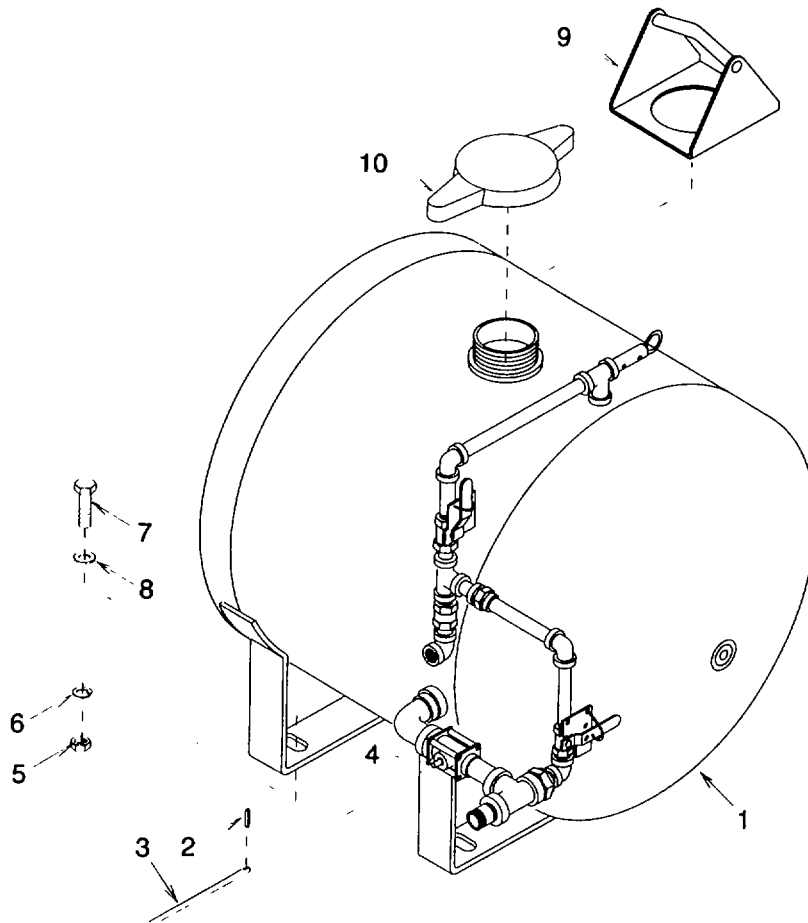
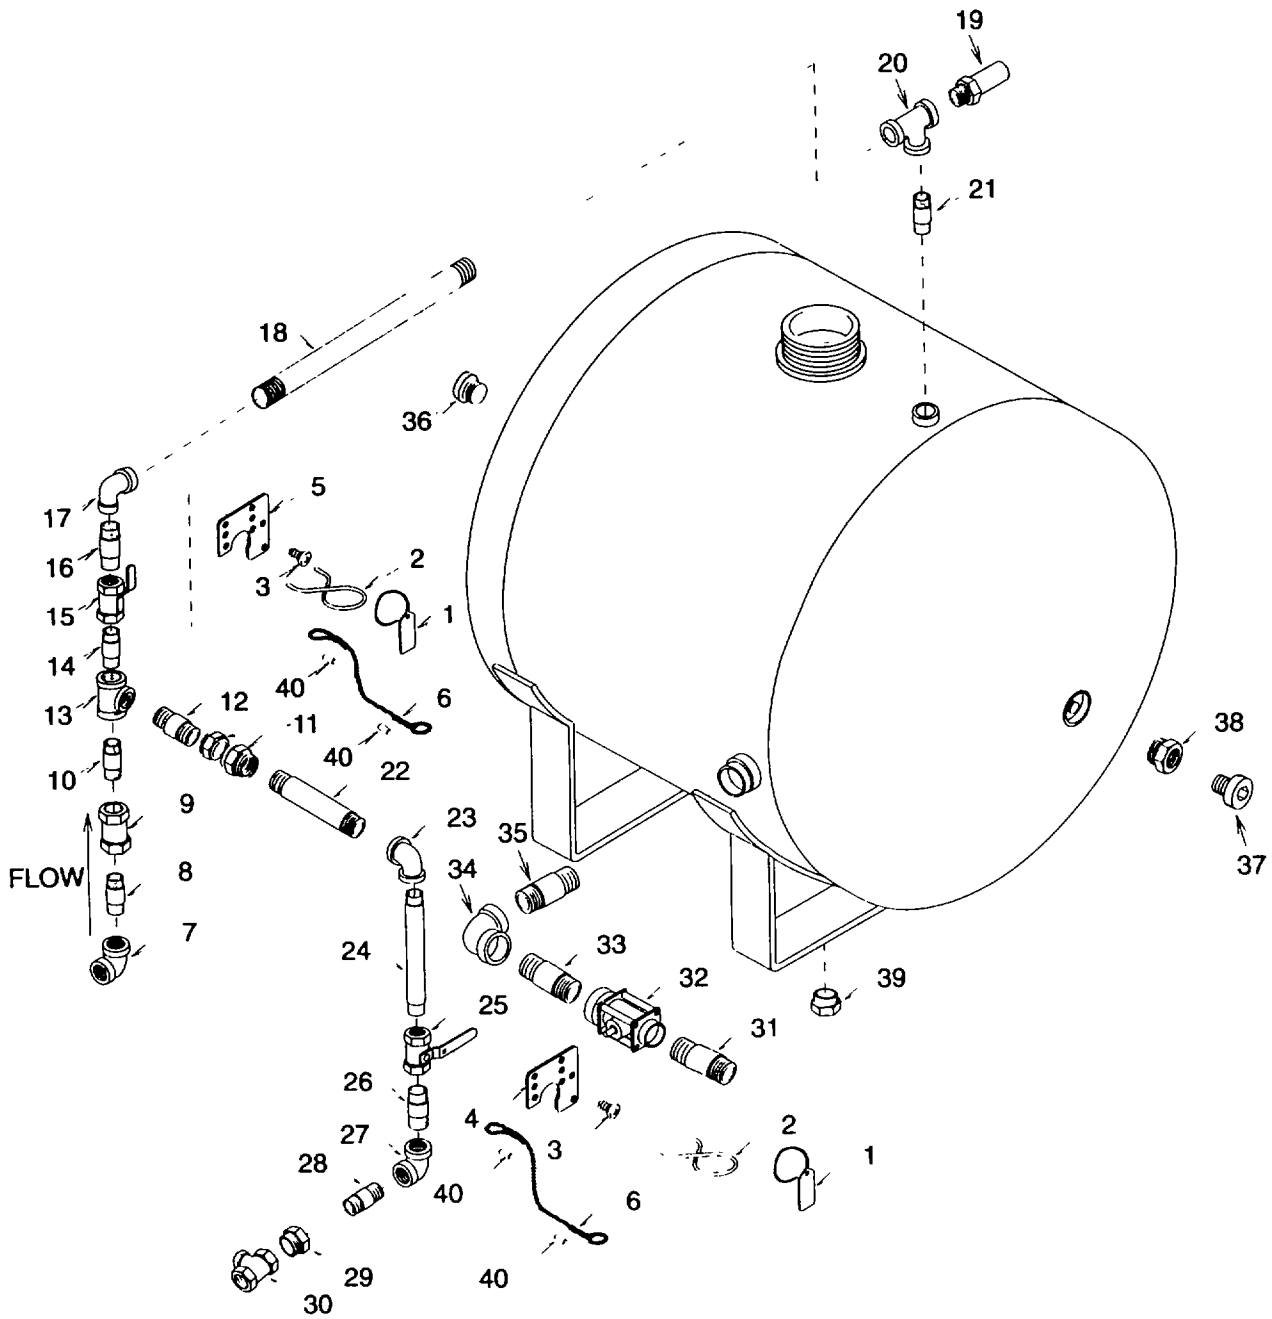

Figure 4-25. AFFF Tank Assembly Removal
Figure 4-26. AFFF Tank Assembly
a. Removal (See figure 4-25.)
- (1) Siphon all AFFF solution from tank (1).
- (2) Remove spring pin (2) and rod (3) from valve (4). Discard spring pin.
- (3) Remove four nuts (5), lock washers (6), screws (7), and flat washers (8). Discard lock washers
- (4) Place tank lifting tool (9) onto tank (1) fill collar. Install cap (10)
b. Disassembly (See figure 4-26)
- (1) Break two strip ties (1) and pull two retaining clips (2).
- (2) Remove two screws (3) and valve mounting bracket (4).
- (3) Remove two screws (3) and valve mounting bracket (5).
- (4) Slip cable (6) off each retaining clip (2).
- (5) Cut cable (6) from valve mounting brackets (4) and (5). Discard cables.
- (6) Disconnect elbow (7), nipple (8), check valve (9), and nipple (10)
- (7) Separate union (11) halves
- (8) Disconnect union (11) half, nipple (12), tee fitting (13), nipple (14), ball valve (15), nipple (16), elbow (17), nipple (18), pressure relief valve (19), tee fitting (20), and nipple (21).
d. Assembly (See figure 4-26)
- (1) Wrap antisieze tape around threaded end of plug (39). Connect plug.
- (2) Wrap antisieze tape around threaded end of plug (37) and male end of reducer (38) Connect Reducer (38) and plug (37)
- (3) Wrap antisieze tape around threaded end of plug (36) Connect plug
- (4) Wrap antisieze tape around threaded ends of nipples (35), (33), (31), (28), (26), (24), (22) and male end of reducer (29) Connect nipple (35), elbow (34), nipple (33), ball valve (32), nipple (31), tee fitting (30), reducer (29), nipple (28), elbow (27), nipple (26), ball valve (25), nipple (24), elbow (23), nipple (22), and union (11) half.
- (5) Wrap antisieze tape around threaded ends of nipples (21), (18), (16), (14), (12) and male end of pressure relief valve (19). Connect nipple (21), tee fitting (20), pressure relief valve (19), nipple (18), elbow (17), nipple (16), ball valve (15), nipple (14), tee fitting (13), nipple (12), and union (11) half.
- (6) Connection (11) halves.
- (7) Wrap antisieze tape around threaded ends of nipples (10) and (8). Connect nipple (10), check valve (9) with flow arrow pointed toward nipple (10), nipple (8), and elbow (7)
- (8) Push new cable (6) end through a new cable sleeve (40) and then loop through hole in valve mounting bracket (4) Push cable end back into cable sleeve. Secure by crimping sleeve Repeat for valve mounting bracket (5).
- (9) Push loose cable (6) end through another new cable sleeve (40) Push cable end back into cable sleeve to form a loop Just large enough to fit retaining clip (2) through. Secure by crimping sleeve Repeat for second cable (6)
- (10) Slip one retaining clip (2) into each cable (6) loop.
- (11) Install valve mounting bracket (5) onto ball valve (15) with two screws (3).
- (12) Install valve mounting bracket (4) onto ball valve (25) with two screws (3)
- (13) Install one retaining clip (2) over charge ball valve (15) handle in open position and one retaining clip over ball valve (25) handle In closed position. Install one strip tie (1) between each retaining clip and valve mounting bracket (4) and (5).
e. Installation (See figure 4-25.)
- (1) Place tank lifting tool (9) onto tank (1) fill collar. Install cap (10).